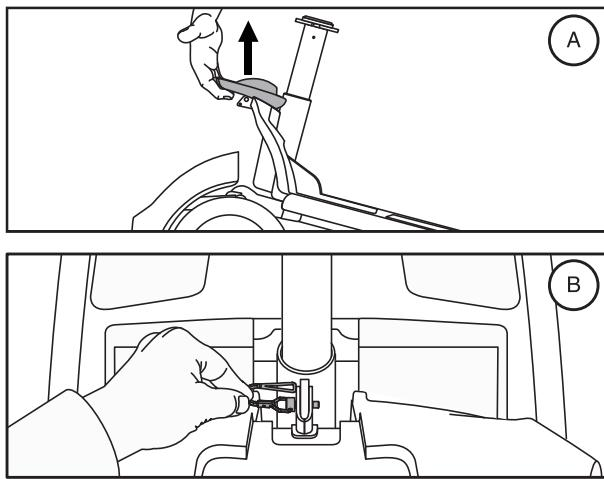

Figure 33. Frame Release Lever (Style A) and Frame Release Lock-up Pin (Style B)
4. Slowly separate the two sections of the Travel Scooter. **See figure 33.**
NOTE: Before attempting assembly, tilt the rear half of the Travel Scooter slightly back on the anti-tip wheels as shown in figure 33.
1. Use the frame release lever (or the seat post for models 29, 36, 336, 83, and 84 only) to lift the front section as you align the frame hooks of the front section with the lower frame tube of the rear section. **See figure 33.**
2. Once the frame hooks are over the lower frame tube, lower the front section and pivot the rear section simultaneously. This will engage the frame lock-up automatically for models AAP4, 39, 40, 44, 40LX, 40X, 44X, 40E, 402E, 44E, 442E, 44LX, 49, 50LX, 50LXLIT, 53, 53HD, 54, 54LX, 54LXLIT, 54HD, 66, 67, 73, 74, and Jazzy ZTS. For models 29, 36, 336, 83, and 84, you will also need to reinstall the frame lockup pin to complete the body assembly. **See figure 33.**